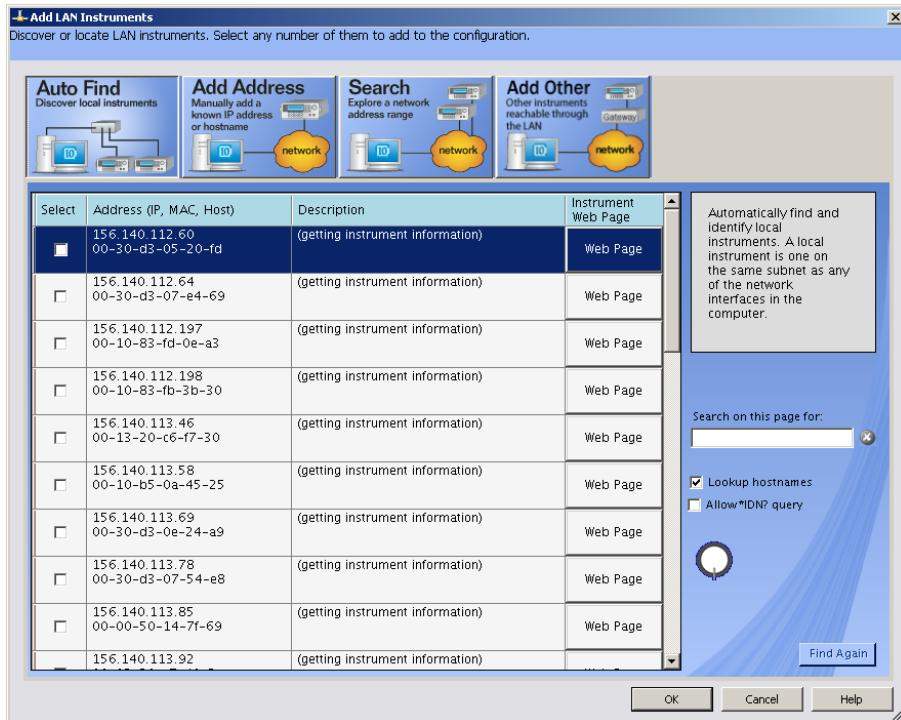

Figure 34 Add LAN Instruments Auto Find Dialog Screen
- 2 This opens the Add LAN Instruments dialog box (see Figure 34). The **Auto Find** tab is preselected.